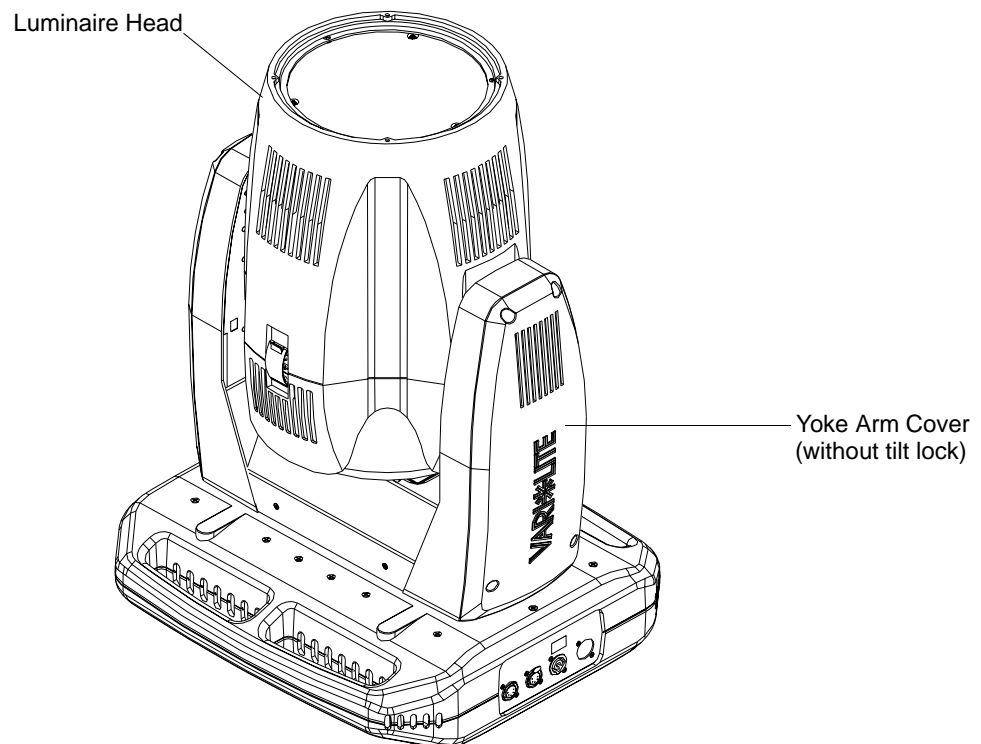

Figure 2-18: VLX Wash Luminaire
- Step 2. At yoke arm cover without tilt lock assembly, remove yoke arm cover by loosening four 1/4-turn Dzus fasteners. Refer to Figure 2-18 for details.